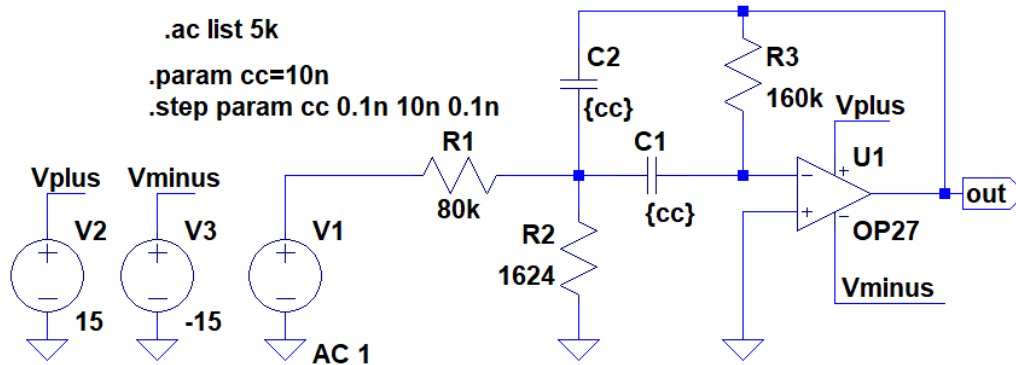

Fig. 7. Circuit for determining the capacitance for  $f_0 = 5$  kHz.
6. For the calculated values of the resistors, determine the value of the capacitance C1 and C2, for which the filter will have the center frequency  $f_0 = 5$  kHz. For this purpose, changes should be made to the analyzed system according to Figure 7.